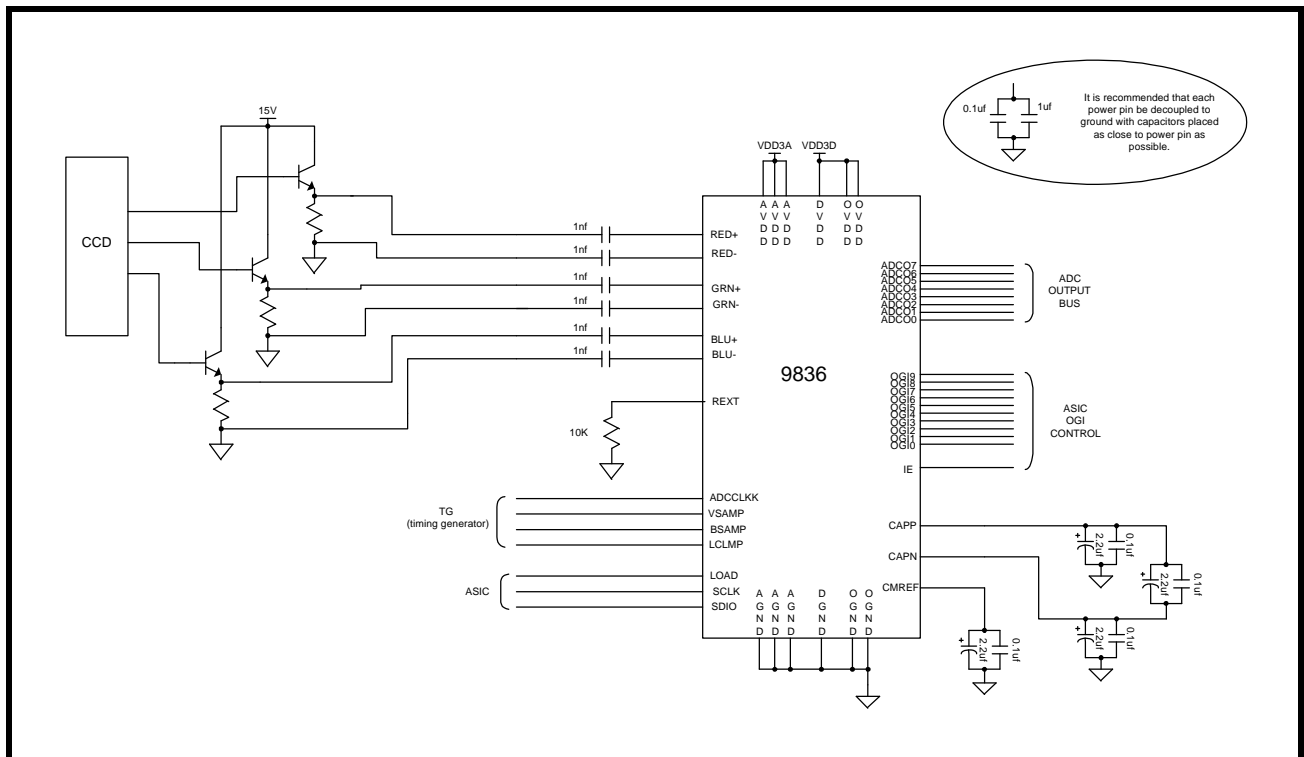

FIGURE 23. TYPICAL CCD APPLICATION DIAGRAM FOR THE XRD9836
See Figure 23 for a typical CCD application hookup. The diagram shows an interface to a standard 3 channel output CCD. Both the ADC Output and OGI Control are parallel interfaces to the system ASIC controller. The timing inputs are provided by the system ASIC or timing generator (TG). The serial port control is typically sourced from a micro processor or the system ASIC.